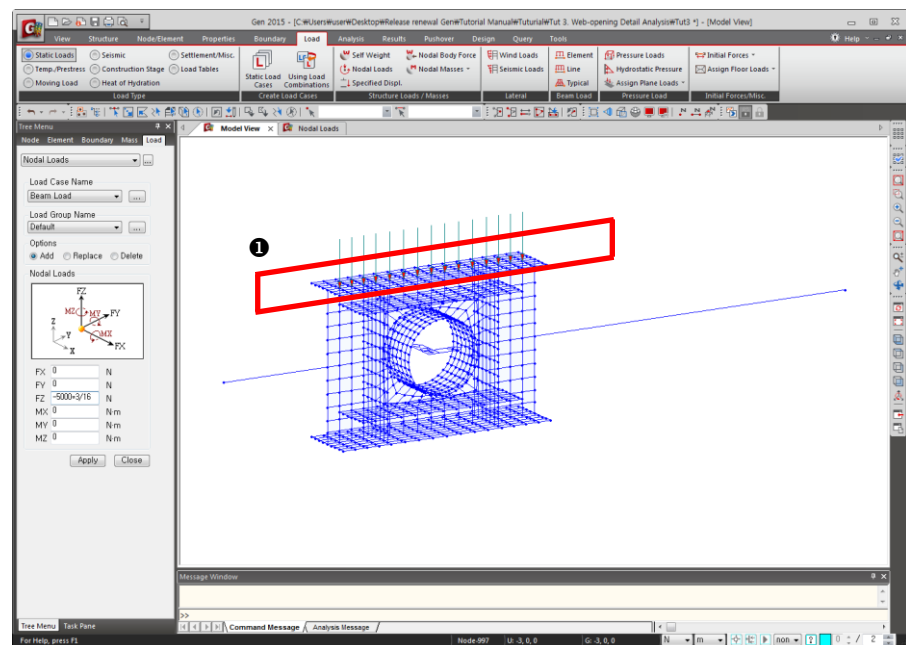

Figure 3.19 Concentrated Loads on the Opening Detail Model
8. Select the nodes where concentrated loads are applied as shown in Fig.3.19–**1** except the end nodes of the model (refer to step 13).